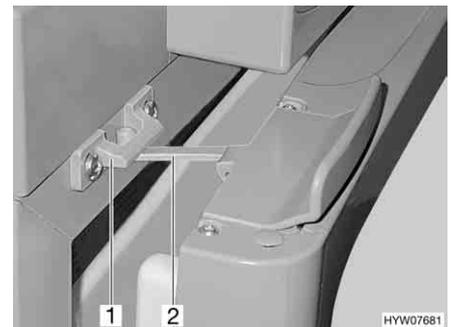

Fig. 160 Refrigerator door in ventilation position (Thetford)
- Open the lock (Fig. 160,2) and snap it into the locking catch (Fig. 160,1). The refrigerator door will then stay slightly open.